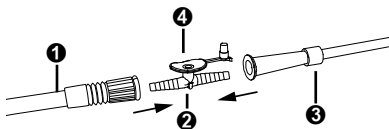

Figure 4
- Control the suctioning process by means of the auxiliary air opening (Figure 4, ④) on the Fingertip.
- Connect the suction catheter (Figure 4, ③) to the suction tube (Figure 4, ①) with the aid of the Fingertip (Figure 4, ②).
- Set your desired vacuum by keeping the auxiliary air opening of the Fingertip (Figure 4, ④) closed and allowing the vacuum to build up. Then turn up the vacuum control (Figure 1, ②) until the vacuum gauge indicates the desired vacuum.
- Choose a suction catheter (Figure 4, ③) with the correct size or a suctioning set, which can be purchased via specialist dealers.